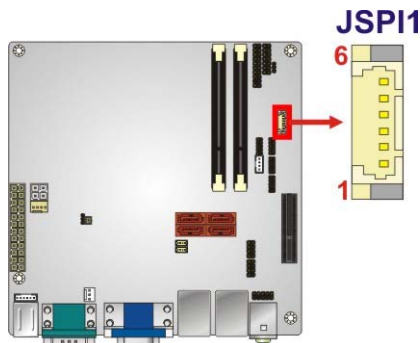

Figure 3-5: BIOS Update Connector Location
- CN Location:** See **Figure 3-5**